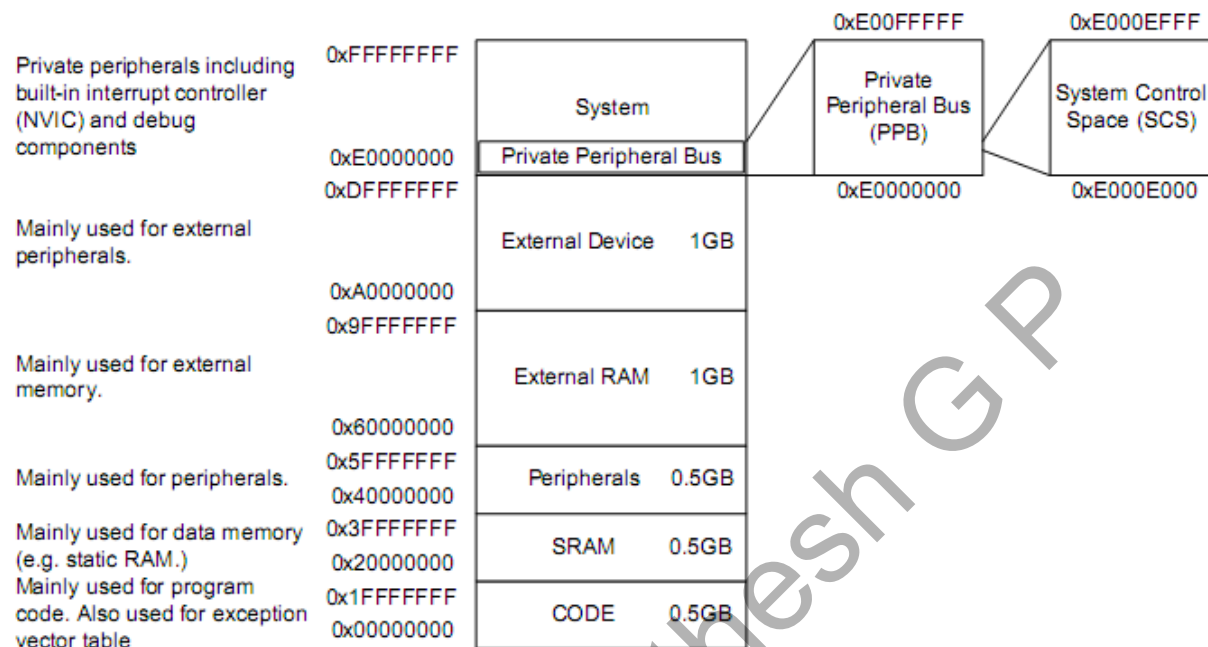

Figure 25: Memory Map
- The NVIC is a part of the Cortex-M processor. It is programmable and its registers are located in the System Control Space (SCS) of the memory map as shown in figure 25